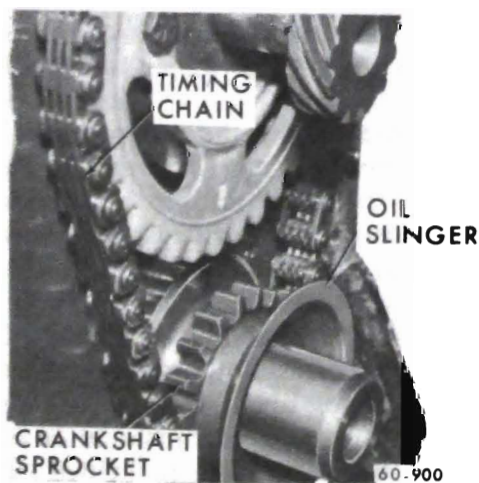

Figure 60-245A Oil Slinger Installation
4. Assemble slinger on crankshaft with I.D. against sprocket (concave side toward front of engine). See Figure 60-245A.
See Figure 60-245A.